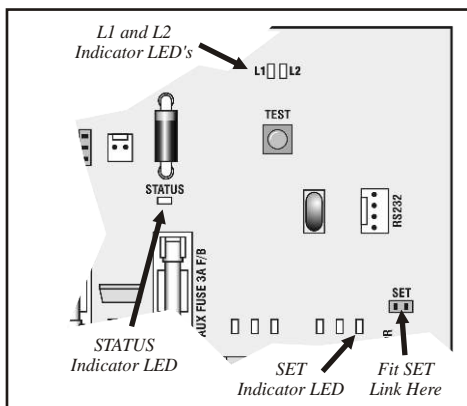

Figure 28 Controller SET Link & Programming LED's
12. Fit the SET link to the SET pins as shown in Fig. 28.
27. Fit the SET link to the SET pins as shown in figure 28.